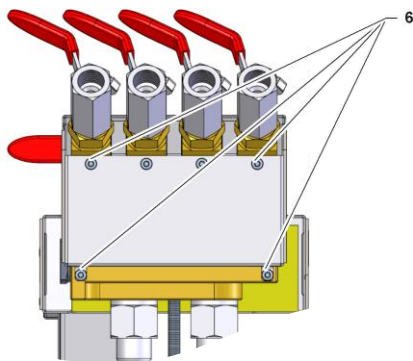

Fig. 9: Flow-5 view from below
- Attach cover plate and mount screws (Label 6 → Fig. 9).